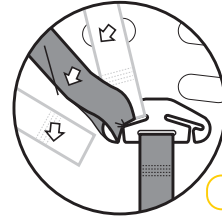

Figure 1
Step 2: Remove each shoulder harness through the gates in the spreader plate (refer Figure 1 & 2).